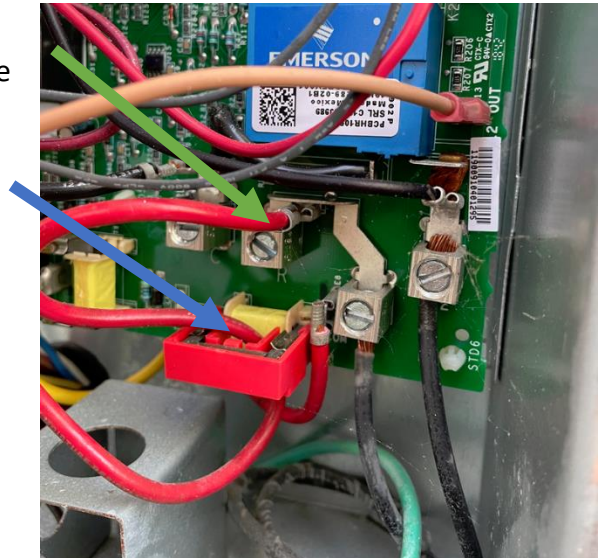

Figure 2
Step 4: Temporarily connect the black EasyStart wire to the screw terminal shown by the black arrow in figure 2. Use a piece of tape or wire nut to insulate the EasyStart brown and orange wires from touching anything else. Set the thermostat for off then turn on power.